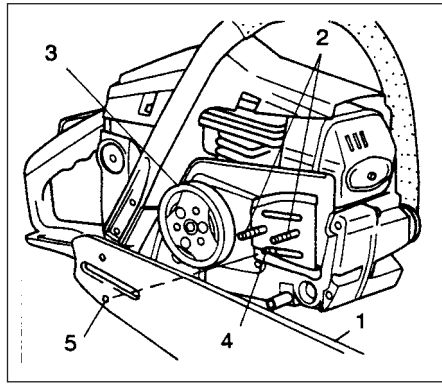

Fig.1-1
1. Remove the side case by unscrewing two guide bar clamp nuts, and install the guide bar (1) onto the bolts (2), then push it toward the sprocket (3) as far as it will go. Make sure that the boss of chain tension adjust bolt (4) fits into the hole of the bar (5). (Fig. 1-1)